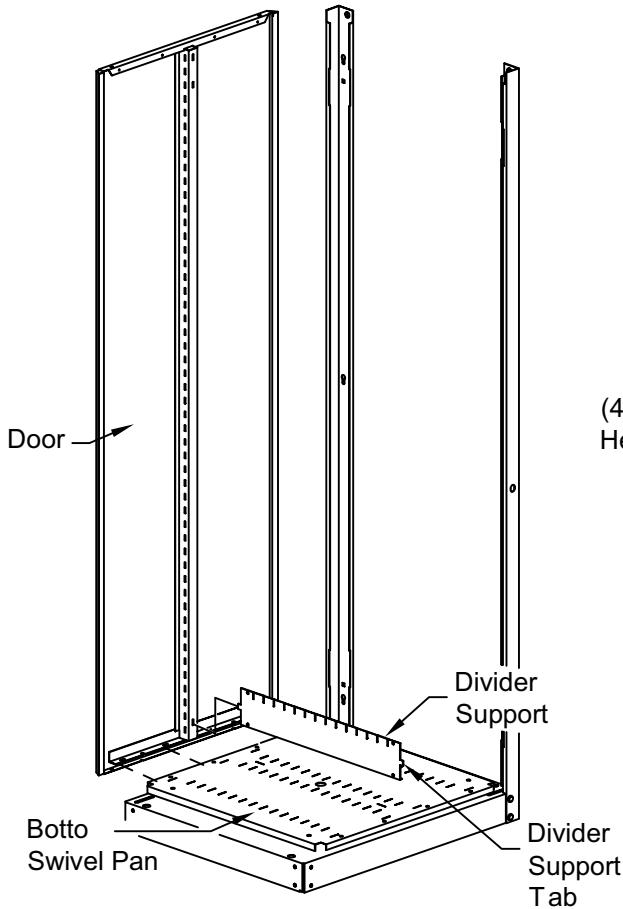

Fig 3.1 (2) Vertical Supports not shown)
Install (2) doors, cross brace & divider support. Set the divider support onto the bottom swivel pan. Slide the first door onto the bottom swivel pan. Verify that the divider support tab engages into the door. (Fig. 3.1)